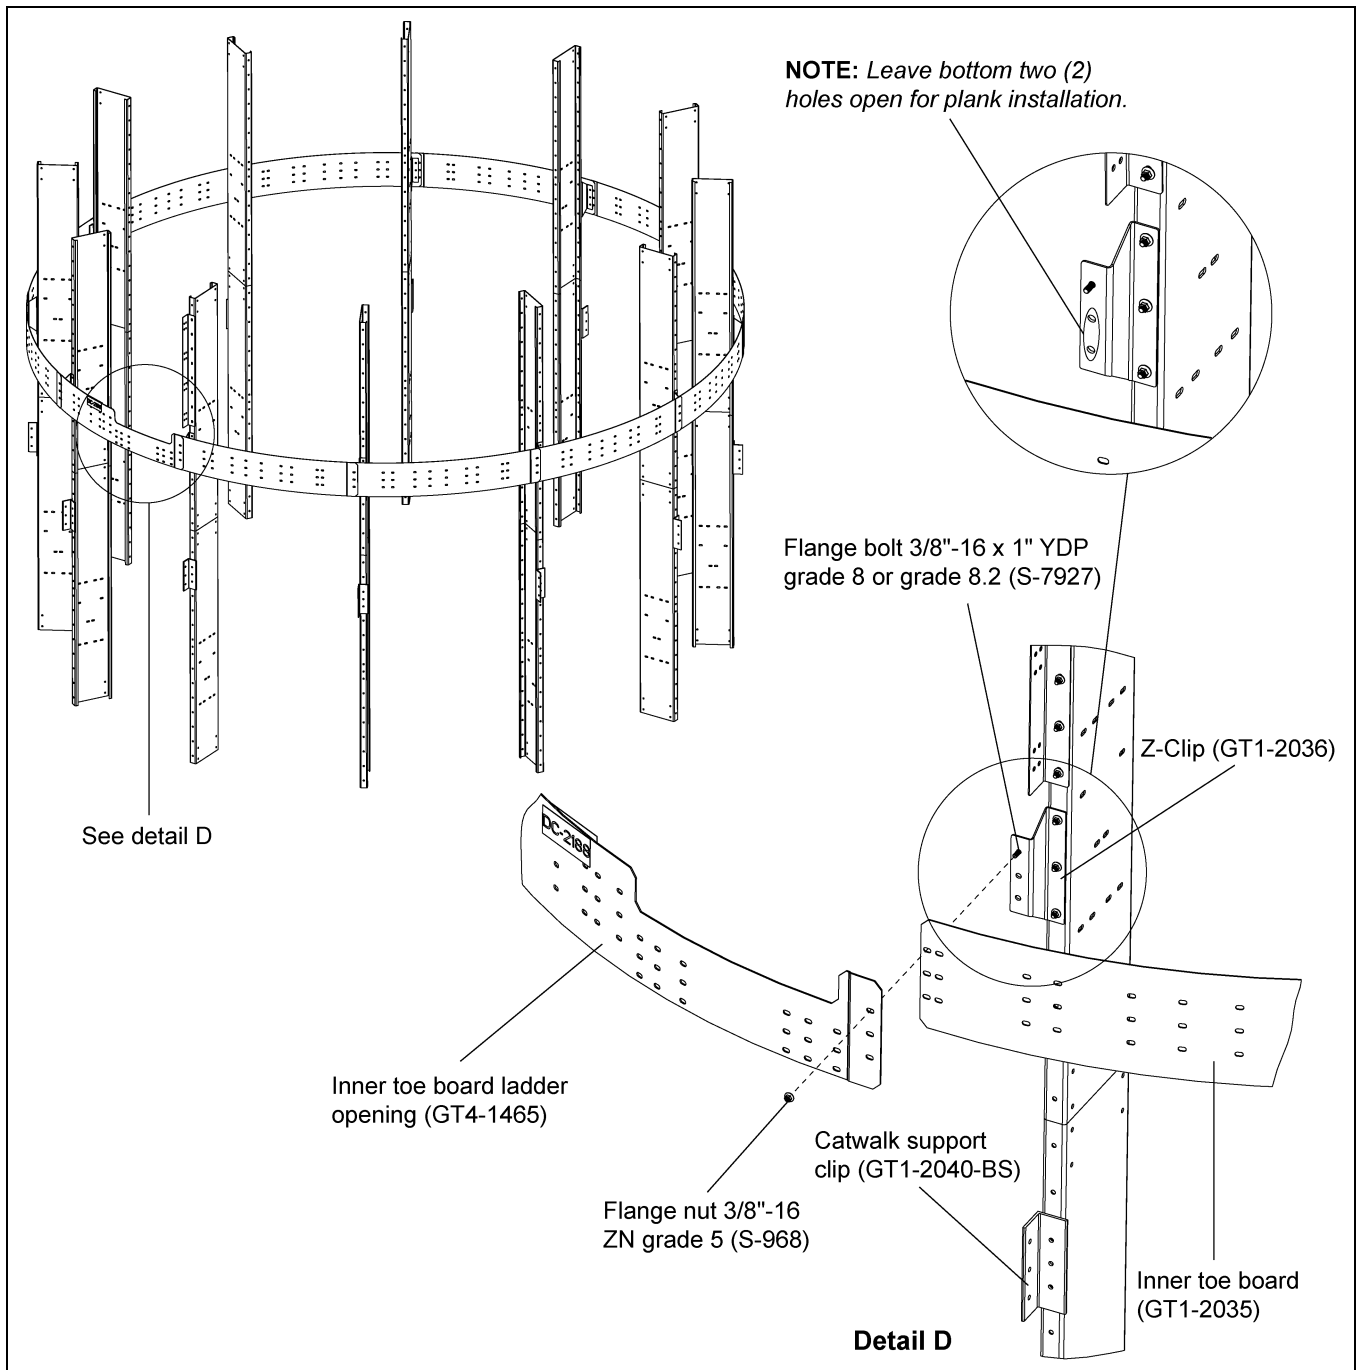
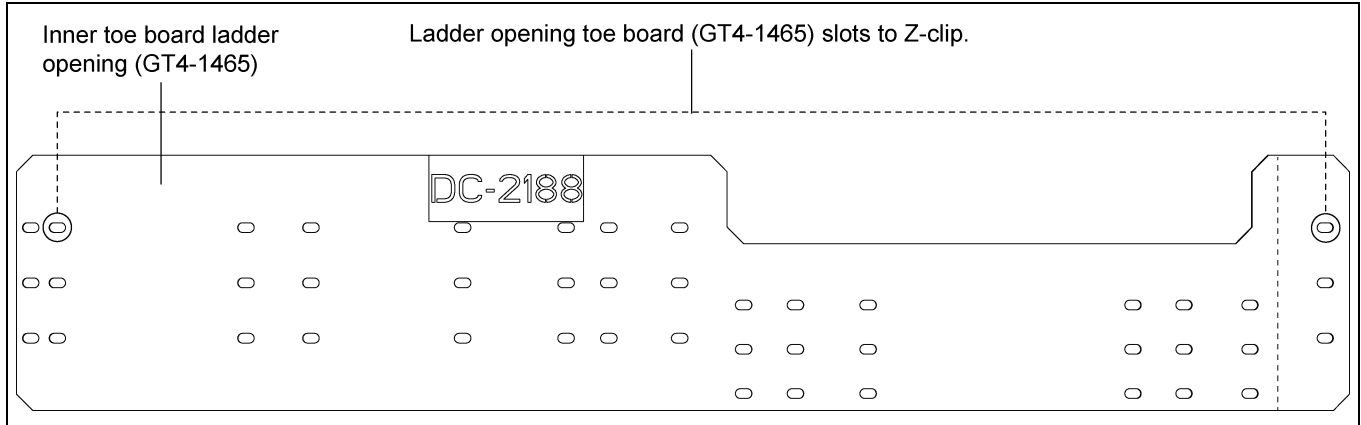

Figure 4G
Figure 4H 18' Ladder Opening Toe Board (GT4-1465)
1. Install the inner toe board (GT1-2035) to the Z-clips (GT1-2036). All toe boards should be installed between the Z-clips using 3/8"-16 x 1" YDP grade 8 or grade 8.2 bolts (S-7927) and 3/8"-16 ZN grade 5 nuts (S-968). (See Figure 4G.)
2. At the ladder location, install the ladder opening toe board (GT4-1465) to Z-clips using 3/8"-16 x 1" YDP grade 8 or grade 8.2 bolts (S-7927) and 3/8"-16 ZN grade 5 nuts (S-968) in such a way that toe board opening falls on the ladder path. (See Figure 4G below and Figure 4H on Page 14.)